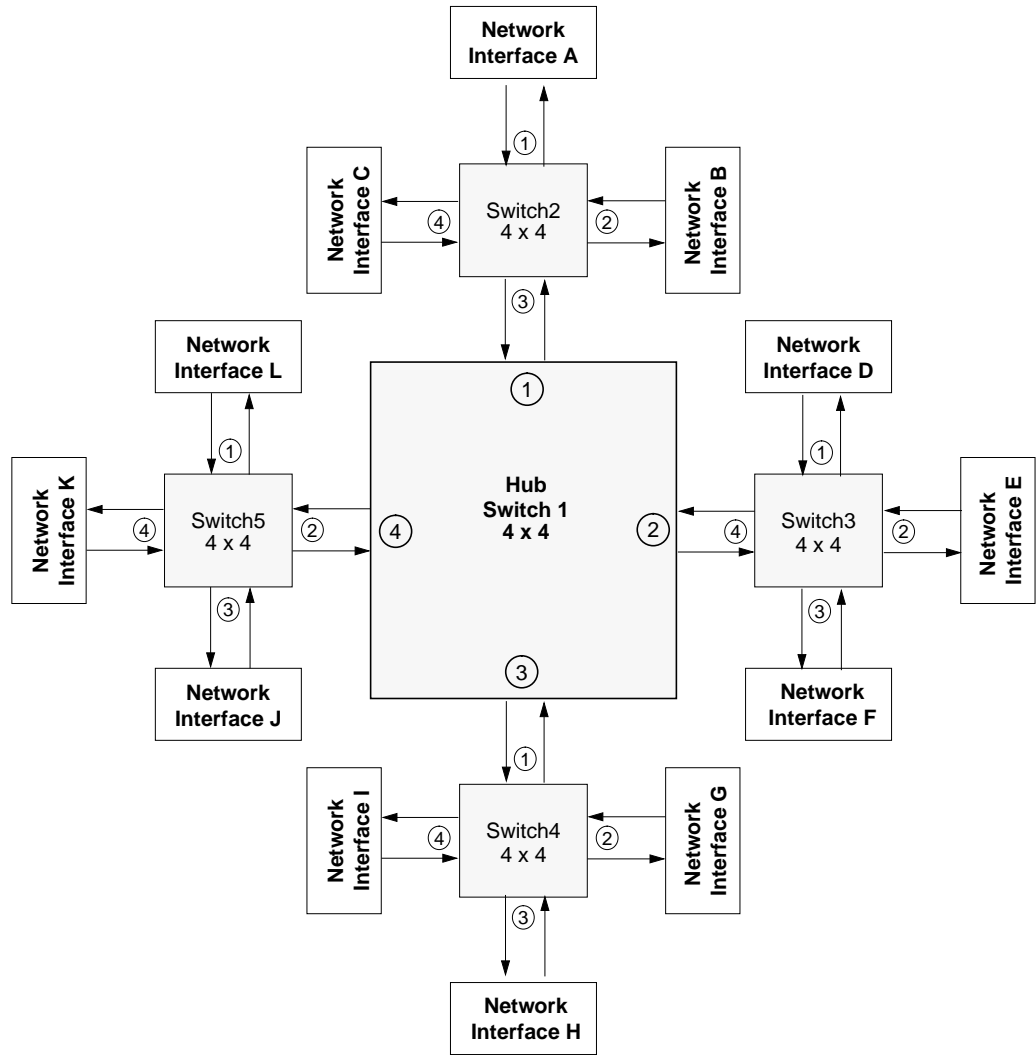
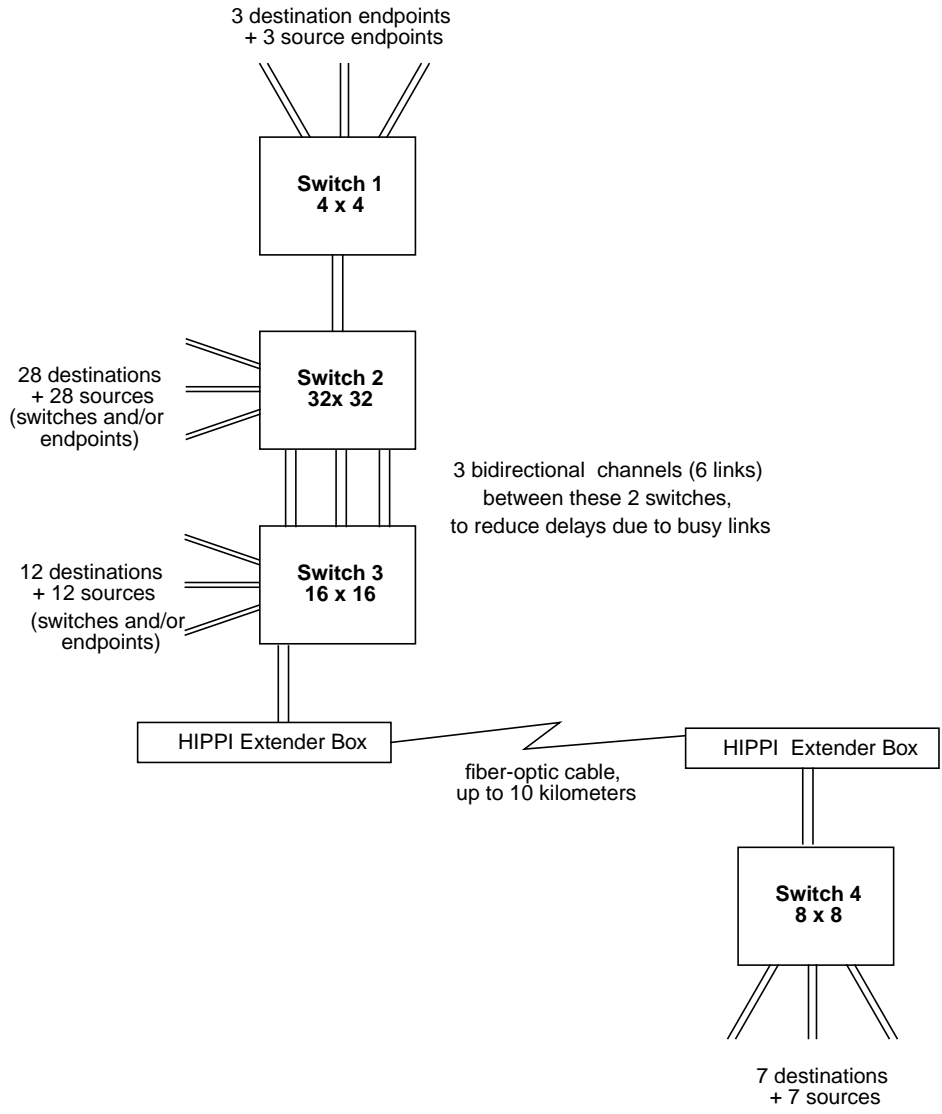

Figure 1-21 HIPPI Fabric Configurations With Multiple Switches
Figure 1-22 Complex HIPPI Fabric Configuration
Figure 1-21 illustrates a fabric with multiple switches, and Figure 1-22 illustrates a complex HIPPI fabric including a long-distance fiber optic link and multiple ports between switches to improve connection setup time by reducing the probability of encountering a busy link.
- If a network is built according to the guidelines in Appendix B of RFC 1374, the recommended maximum number of hops (switches) between any two endpoints is three. This limit has major implications for the structure and size of a HIPPI network. The structure is limited to a single hub switch with satellite switches attached to the hub's ports, but no switches attached to any satellite ports. Figure 1-21 shows an example of an RFC 1374-compliant network. Table 1-7 summarizes the maximum number of switches and endpoints possible for a network in which switches of only one size are used throughout the network.